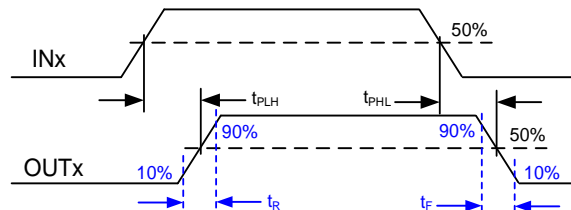
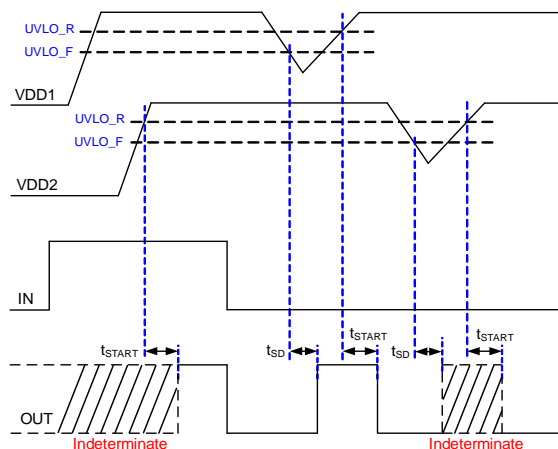

Figure 4: Propagation Delay Time
Figure 5: UVLO and Output Delay
- 11) See Figure 4 and Figure 5 on page 20, and Figure 6 on page 21 for more details.
All channel signals have a Schmitt trigger input to enhance noise immunity. At the same time, all channels going in the same direction are optimized for propagation delay matching. This function can be used for serial peripheral interface (SPI) isolation, with an excellent channel-to-channel skew. Figure 4 shows the propagation delay time.
The outputs stay at a high impedance during start-up until the corresponding  $V_{DDx}$  exceeds its UVLO threshold for the set time period ( $t_{START}$ ). After this period, the outputs follow the state of the inputs. Figure 5 shows the UVLO delay function.